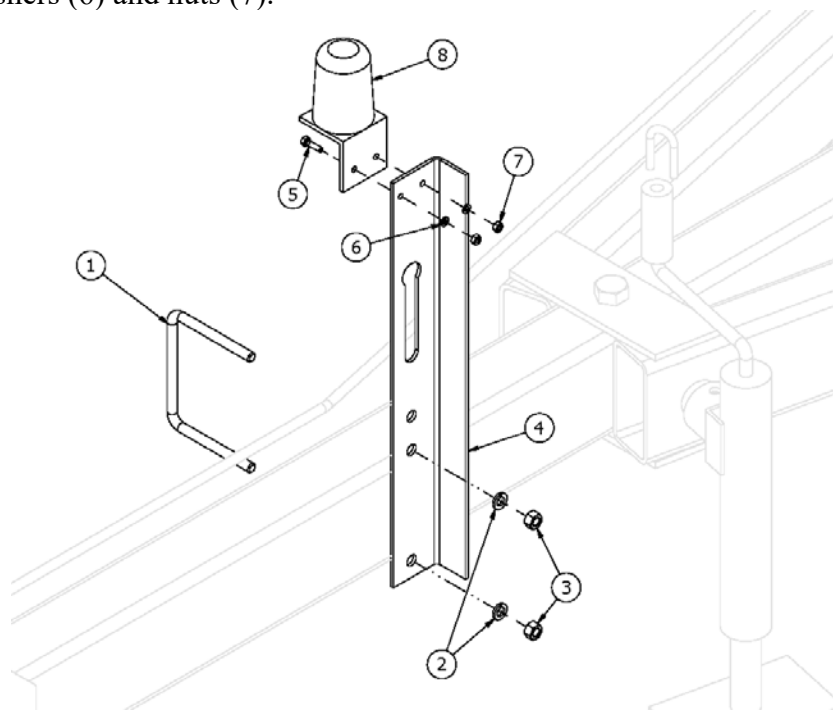

Figure 16
1. Attach the SMV sign Mounting Bracket (1) to the first lift arm left of center as shown in Figure 16, using 3/8 X 2 X 3 3/4 U-bolts (2) and locking nuts (3). Attach the SMV sign (4) to the Mounting Bracket (1) using 1/4 x 1 bolts (5), and locking nuts (6).